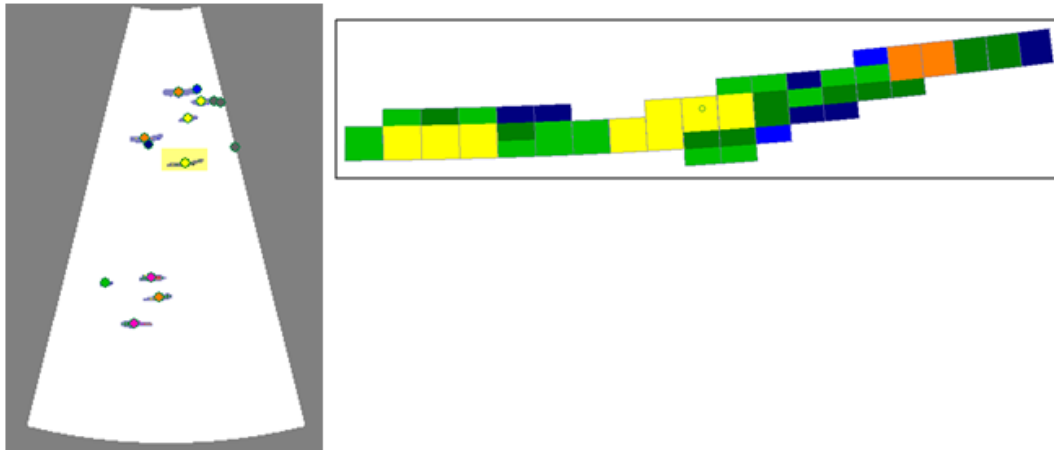

Figure 7. Close up of the highlighted multibeam target in ping 34.
17. On the Multibeam target detection echogram zoom in on a target (refer to Topic 2). The color scheme for the input data under targets is controlled by the input operand Beam median filter 3x3. To match the inset for Figure 7 you may need to adjust the **Echogram color settings** of the **Beam median filter** variable. Beam median filter: Display minimum = 70 dB, Display range = 41 dB. Adjust F11/F12 on the Beam median filter echogram, while viewing the target.